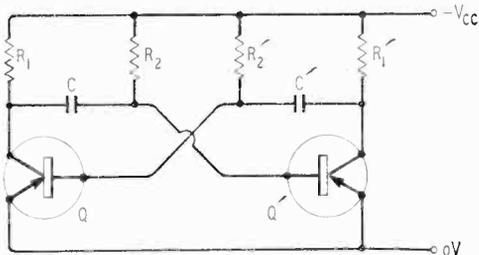
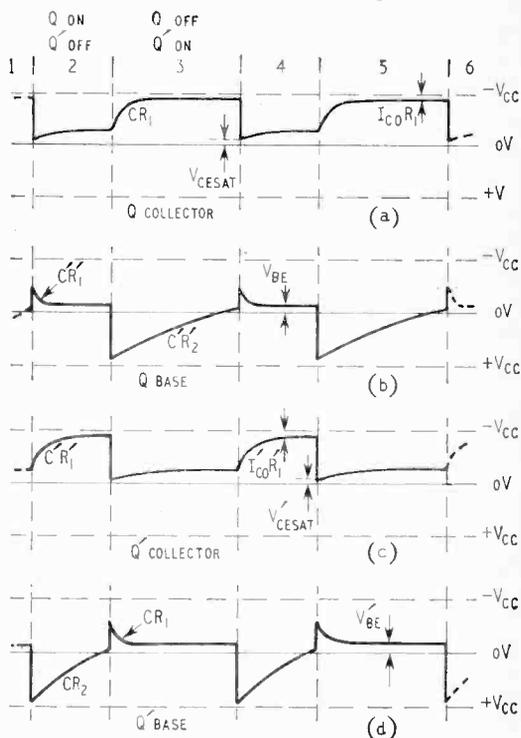
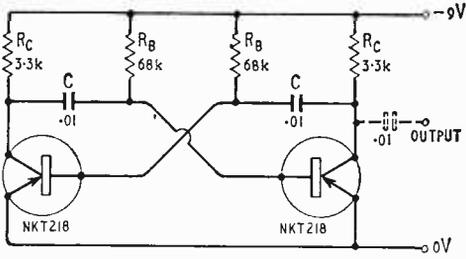
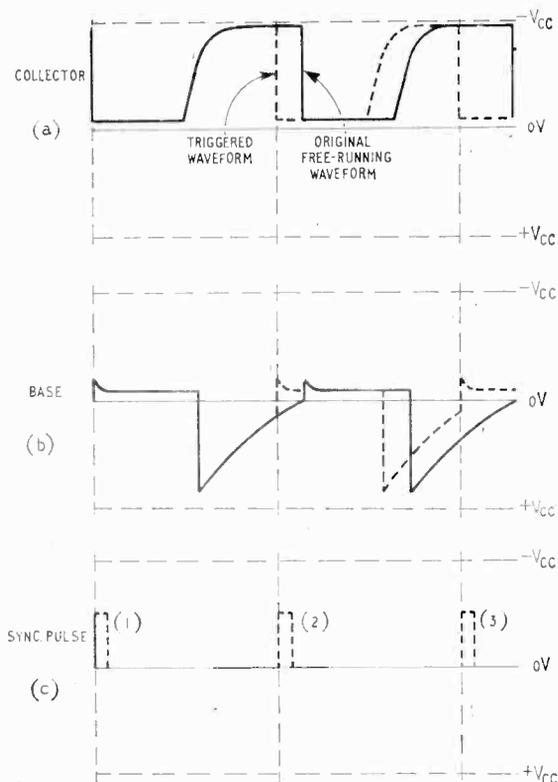

Fig. 33. Elementary astable multivibrator.
Fig. 34. Waveforms of astable multivibrator of Fig. 33.
Fig. 35. Simple 1kc/s astable multivibrator or square-wave generator.
Fig. 37. Wave-shapes of synchronized astable multivibrator.
The astable multi is a self-driven oscillator which generates a train of rectangular waves, and, since it requires no triggering signals, it is widely used as a primary source of pulses. The basic transistor circuit is illustrated in Fig. 33 (note that both cross-coupling impedances are capacitances). Other astable multistats using different feedback circuits are
**Operating Principle of Astable Multi.**—To understand how the circuit of Fig. 33 works, the waveforms given in Fig. 34 are needed (with negative voltages upwards for p-n-p transistors). The sequence of operations is as follows. When the circuit is first switched on, both transistors tend to conduct because current is supplied to the bases through  $R_2$  and  $R'_2$ . The positive feedback from output to input takes the circuit into oscillation between states where one transistor is on and the other off. At the end of period (1) in Fig. 34, the base voltage of the left-hand transistor Q is rising towards zero volts. As the base passes through zero and rises negatively, Q starts to conduct and causes the collector voltage of the transistor to drop towards zero. This voltage drop is transmitted to the base of the other transistor Q' via the coupling capacitor C and causes a rise in Q' collector voltage. This rise is applied back to the base of Q via the coupling capacitor C, so causing a further increase in the collector current in Q. The action develops cumulatively and causes the base voltage of Q to rise rapidly to a small negative value and its collector voltage to drop close to zero. At the same time the base of Q' drops to a large positive value (well beyond the Q' base cut-off value), and its collector rises close to the supply voltage. Note that the base of Q cannot rise above the small negative value because the flow of base current in the transistor input makes the base-emitter resistance small and limits the voltage developed across it. In this rapid switch over, the circuit is said to "flip."
The regenerative switching stage is now complete and the circuit is then said to "relax" during period (2) in Fig. 34. (This is the origin of the description "relaxation oscillator" sometimes applied to this multi). During this period, two things happen. First, C charges via  $R'_1$  and the low resistance base-emitter path of Q, thus causing the base of Q to return towards zero with a time constant  $CR'_1$  and the collector of Q' to rise towards the rail voltage  $V_{cc}$  with the same time constant. Secondly, C discharges through  $R_2$  and the base voltage of Q' rises towards zero with a time constant  $CR_2$ .
**Oscillation Frequency of Astable Multi.**—The frequency at which the astable multi oscillates is set principally by the time constants  $CR_2$  and  $CR'_2$  in Fig. 33, although it is also affected slightly by other factors such as the collector leakage current,  $I_{CO}$ , and the base-emitter drive voltage,  $V_{BE}$ , of the transistors used. Also for high frequency operation, transistor internal and circuit stray capacitances become significant. To a first approximation, however, at relatively low frequencies it can be shown that the period of oscillation is expressed by
**Practical Design of Astable Multi.**—A precise paper design of an astable multi is quite complex, but the simple practical 1kc/s square wave generator shown in Fig. 35 can be used to illustrate at least the more important design points.
The voltage ratings of the transistors can be worked out from the waveforms of Fig. 34. They must have a  $V_{ce}$  rating at least equal to the d.c. supply voltage. Also the base-emitter junction sees a peak reverse voltage equal to the supply voltage and the collector-base junction nearly twice this. In the circuit of Fig. 35 this means  $V_{ce}$ ,  $V_{cb}$ ,  $V_{eb}$  ratings of 9V, 18V, 9V respectively. The NKT 214, a conventional p-n-p germanium audio transistor, has ratings better than this.
The battery voltage is selected at 9V in Fig. 35 because this is fast becoming a practical semi-preferred value for transistor low level circuits and a wide range of standard dry batteries is available at this voltage.
The output from an astable multi can be taken from either collector. The load resistance is then in parallel with the collector resistance, but it has only a second order effect on the repetition frequency because the collector resistor does not appear in the approximate frequency formula. In Fig. 35, the output can be taken off from the right hand collector (through a  $0.1 \mu F$  d.c. isolating capacitor if desired), and this simple circuit makes a useful 1kc/s square wave test oscillator, with an output impedance of 3,300 ohms.
The resultant waveforms from such a procedure are shown in Fig. 37. Negative going sync. pulses are applied to the base of one transistor (say  $Q$  of the simple astable circuit of Fig. 33) at a faster repetition rate than the free-running frequency of the circuit which is indicated by the continuous line in (a) and (b). If pulse No. 1 arrives at an instant when  $Q$  is already switching on, pulse No. 2 will arrive at the transistor base when the voltage there is rising towards zero, but has not quite reached a level to switch the transistor on by itself. The negative pulse takes it immediately over to a negative level and so accelerates the transition of  $Q$  into its conducting state as shown by the dotted traces, coinciding with the leading edge of pulse No. 2. In effect this causes  $Q$  to conduct before it would have done under the normal CR discharging conditions. As each successive sync. pulse causes this to happen, the astable multi locks in with the sync. pulses.
The example shown has been for an unsymmetrical output. If a symmetrical output is required at the lower frequency, it will be necessary for sync. pulses to be applied to both transistors. This can conveniently be done by including a small resistor between the commoned emitters and positive earth in Fig. 33 and applying the sync. pulses across this resistor.